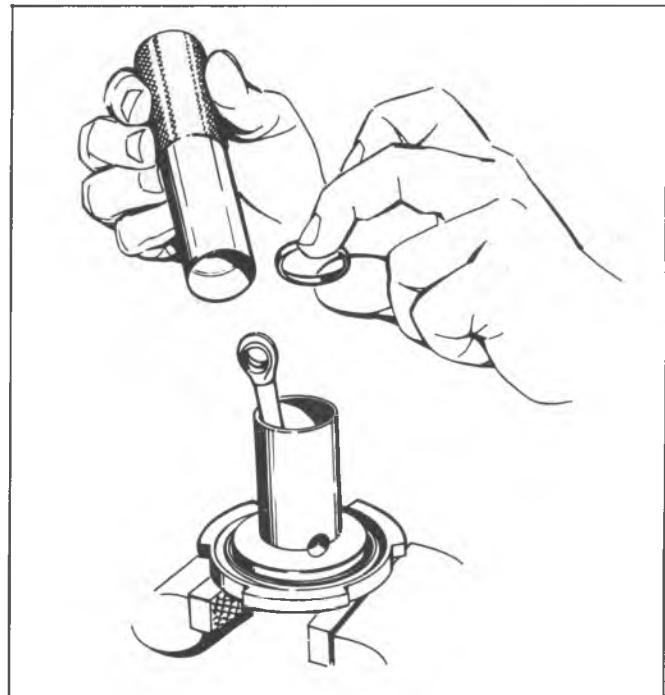
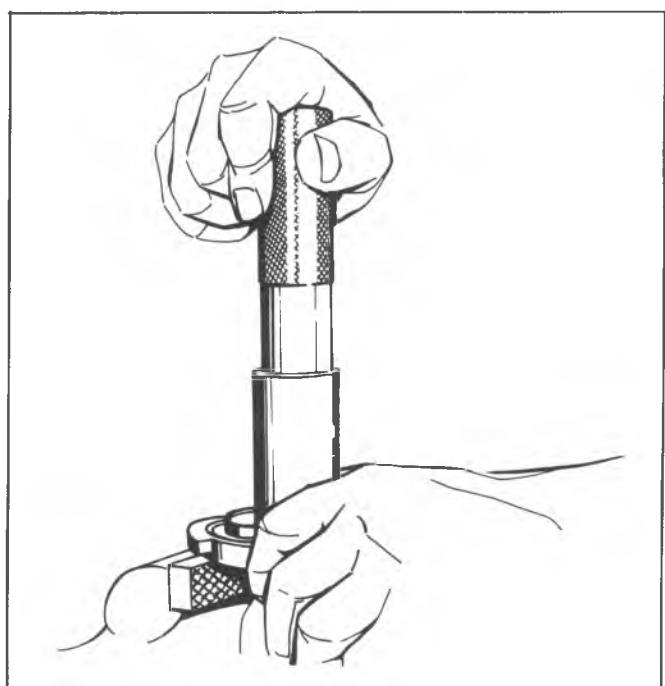

Fig. 5-11A--Installing Floating Control Valve Retainer with Installer J-23175
Fig. 5-12A--Seating Floating Control Valve Assembly with Installer J-23175
5. Place the I.D. of the floating control valve retainer on the O.D. of floating control valve Retainer Installer J-23175 (fig. 5-11A). Place over the push rod so that the closed side of the retainer seats on the floating control valve. With Installer J-23175, manually press the retainer and floating control valve assembly to seat in the primary power piston tube (fig. 5-12A).